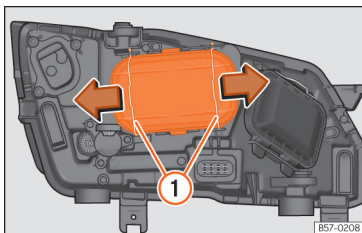

Fig. 108 In the engine compartment: remove the lid.
2. Move the loops » **Fig. 108** ① in the direction of the arrow and remove the cover.